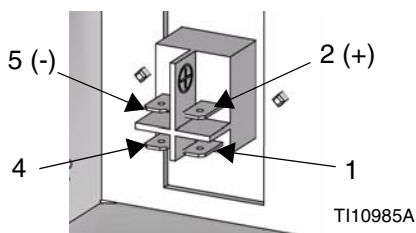
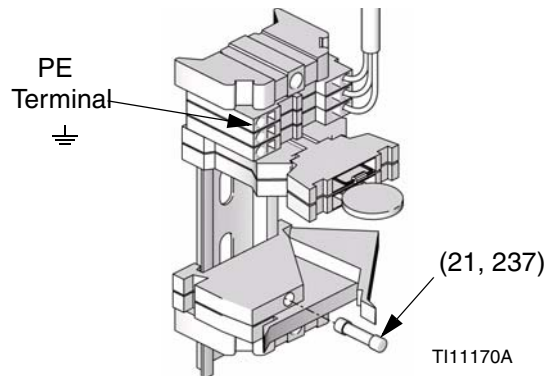

FIG. 40
FIG. 41
5. Install power supply output cable to CAN cable (509).
- Attach 24 V Class 2 power supply to terminals on the power switch: +24 Vdc to terminal 2 (+) and 24 Vdc return to terminal 5 (-). See FIG. 40. Attach protective earthing (PE) conductor to terminal marked \perp . See FIG. 41. The 24 Vdc power supply must be capable of supplying at least 1.0 Amp and have supply current protection rated at no more than 2.5 Amps.
- Install front and back shrouding covers (506, 507), retainers (504), and screws (503). See DataTrak Kit parts illustration on page 50.